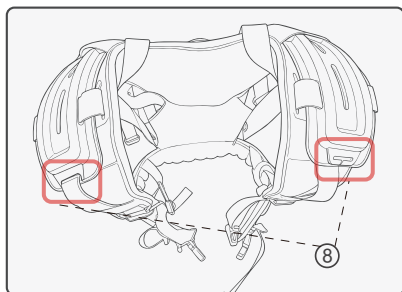

Figure 23 Removing the webbing strap
- ⦿ Take the webbing at position ⑧ out of the open slot, as shown in the figure 23.